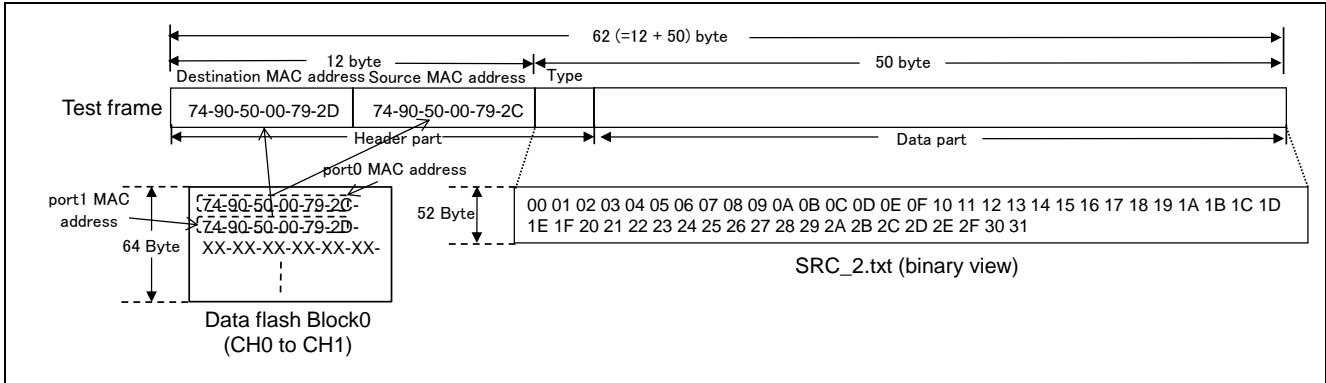

Figure 3.3 Frame format
Figure 3.3 explains the test frame format in relation to the Mac addresses written in the data flash and the test data refer to the SRC\_2.txt when the direction of frame transfer is from CH0 to CH1. The port0 MAC address of the RSK board2 is written beginning 6 byte in the Block0 whose address is “0x0010\_0000 – 0x0010\_0005” and the port1 MAC address of the RSK board2 is written next 6 byte in the Block0 whose address is “0x0010\_0006 – 0x0010\_000B”.
(1) Set simple switch function.
(2) Read the test data transferred as the frame from the USB memory via USB Host.
(3) Load MAC addresses from the data flash.
(4) Create the frame showed by the Figure 3.3.
(5) Transmit the frame from port0.
(6) Receive the relayed frame1.
(7) Measure the frame transfer interval using the MTU3.
(8) Write the reception data transferred as the frame to the USB memory.
(9) Repeat the specified times of the USB read, frame transfer with interval measurement, and USB write. Thereafter, write the result of the frame transfer intervals to the USB memory.
(10) The MAC addresses in the data flash are erased if “FORCE\_ERASE\_PRM” option is defined.